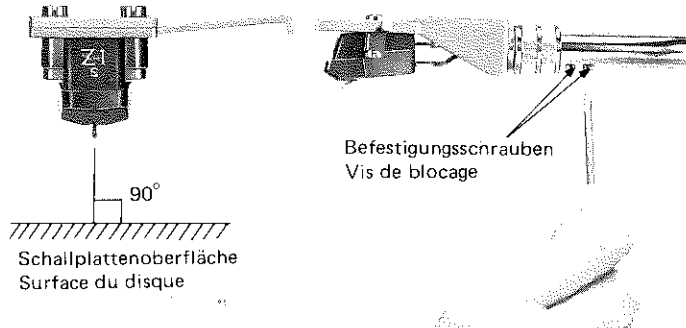

Fig. 13
8-(4) Headshell mounting Angle Adjustment (Fig. 13)